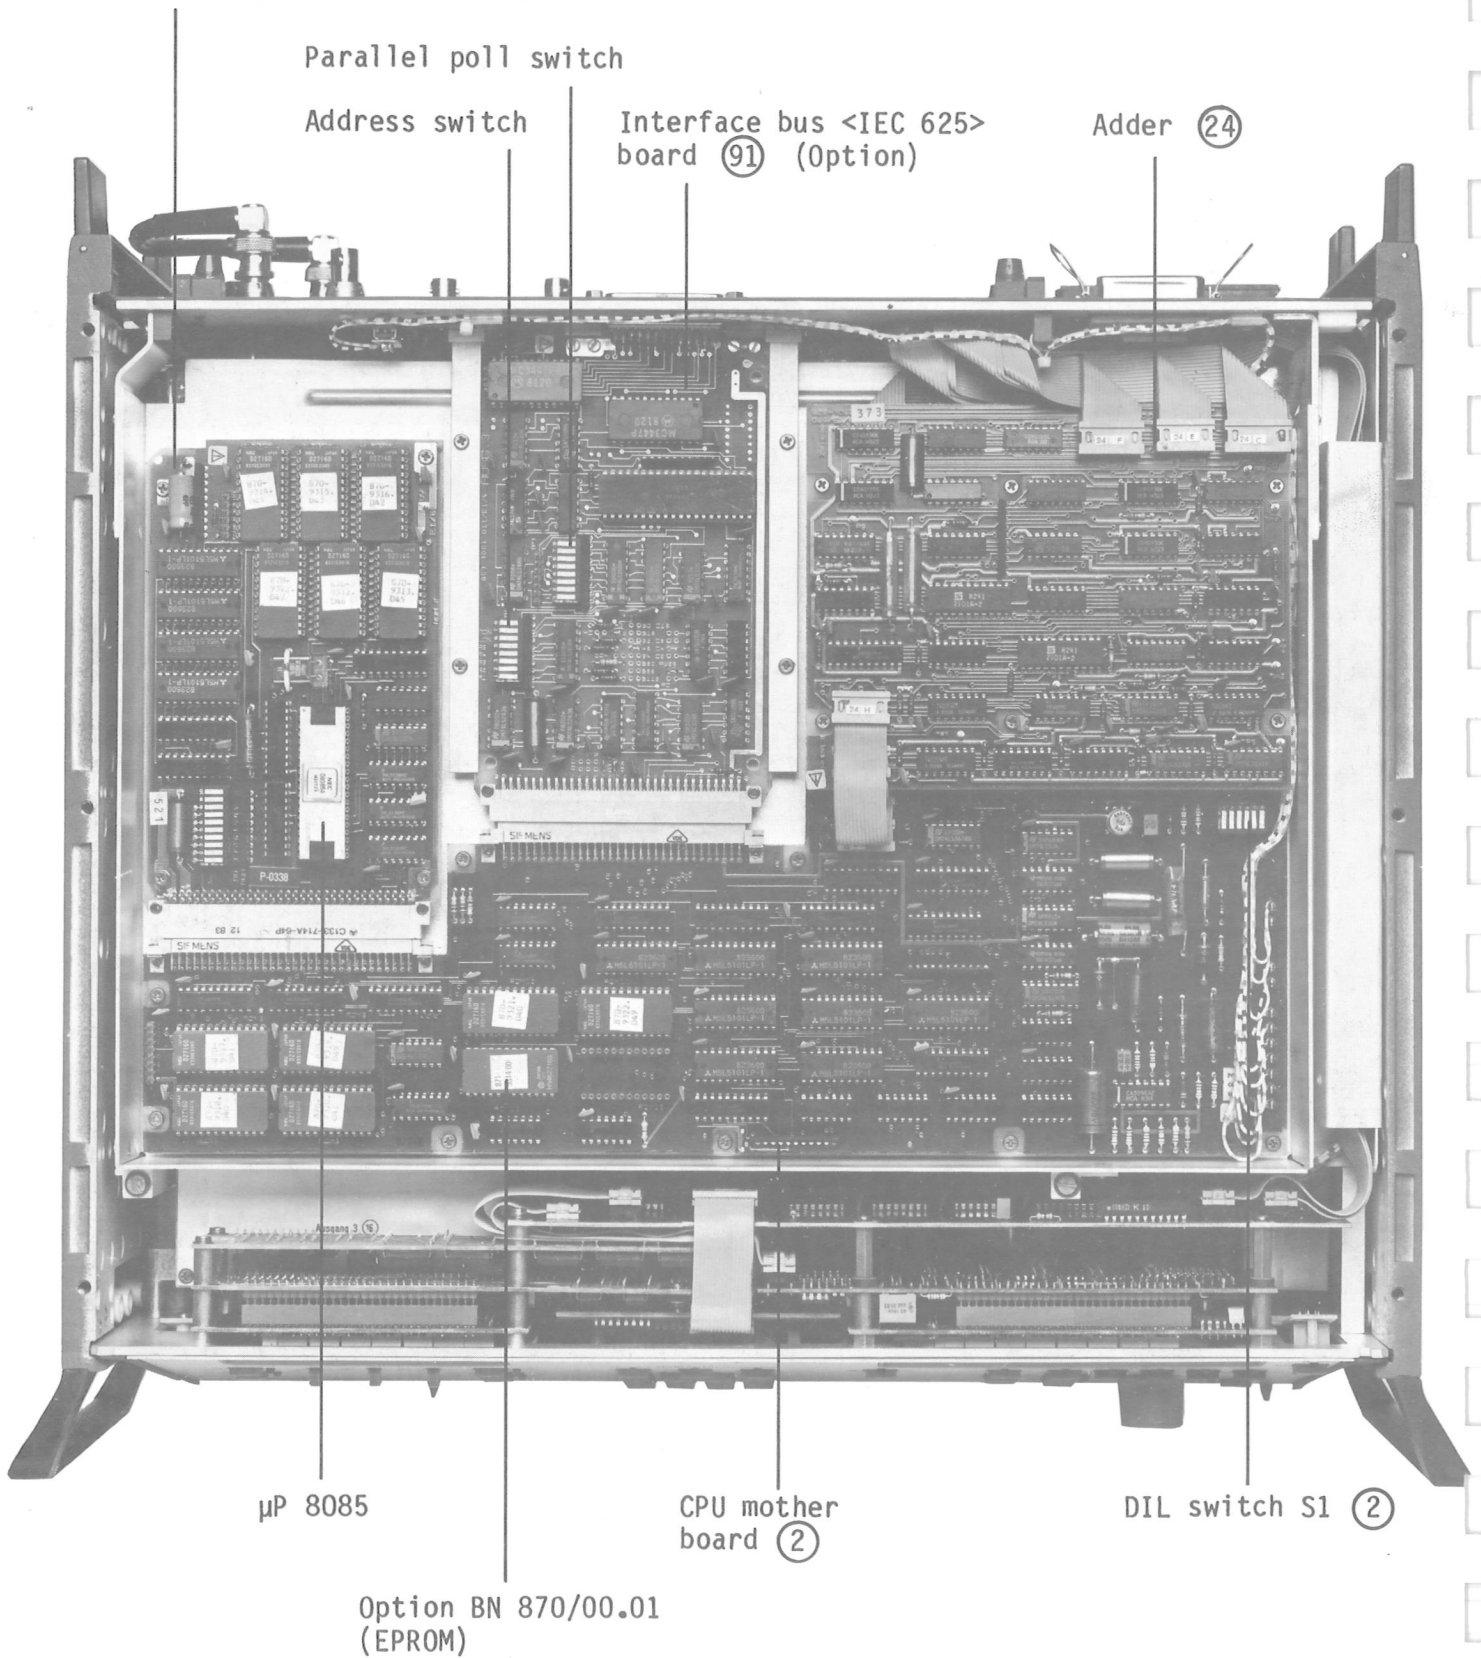
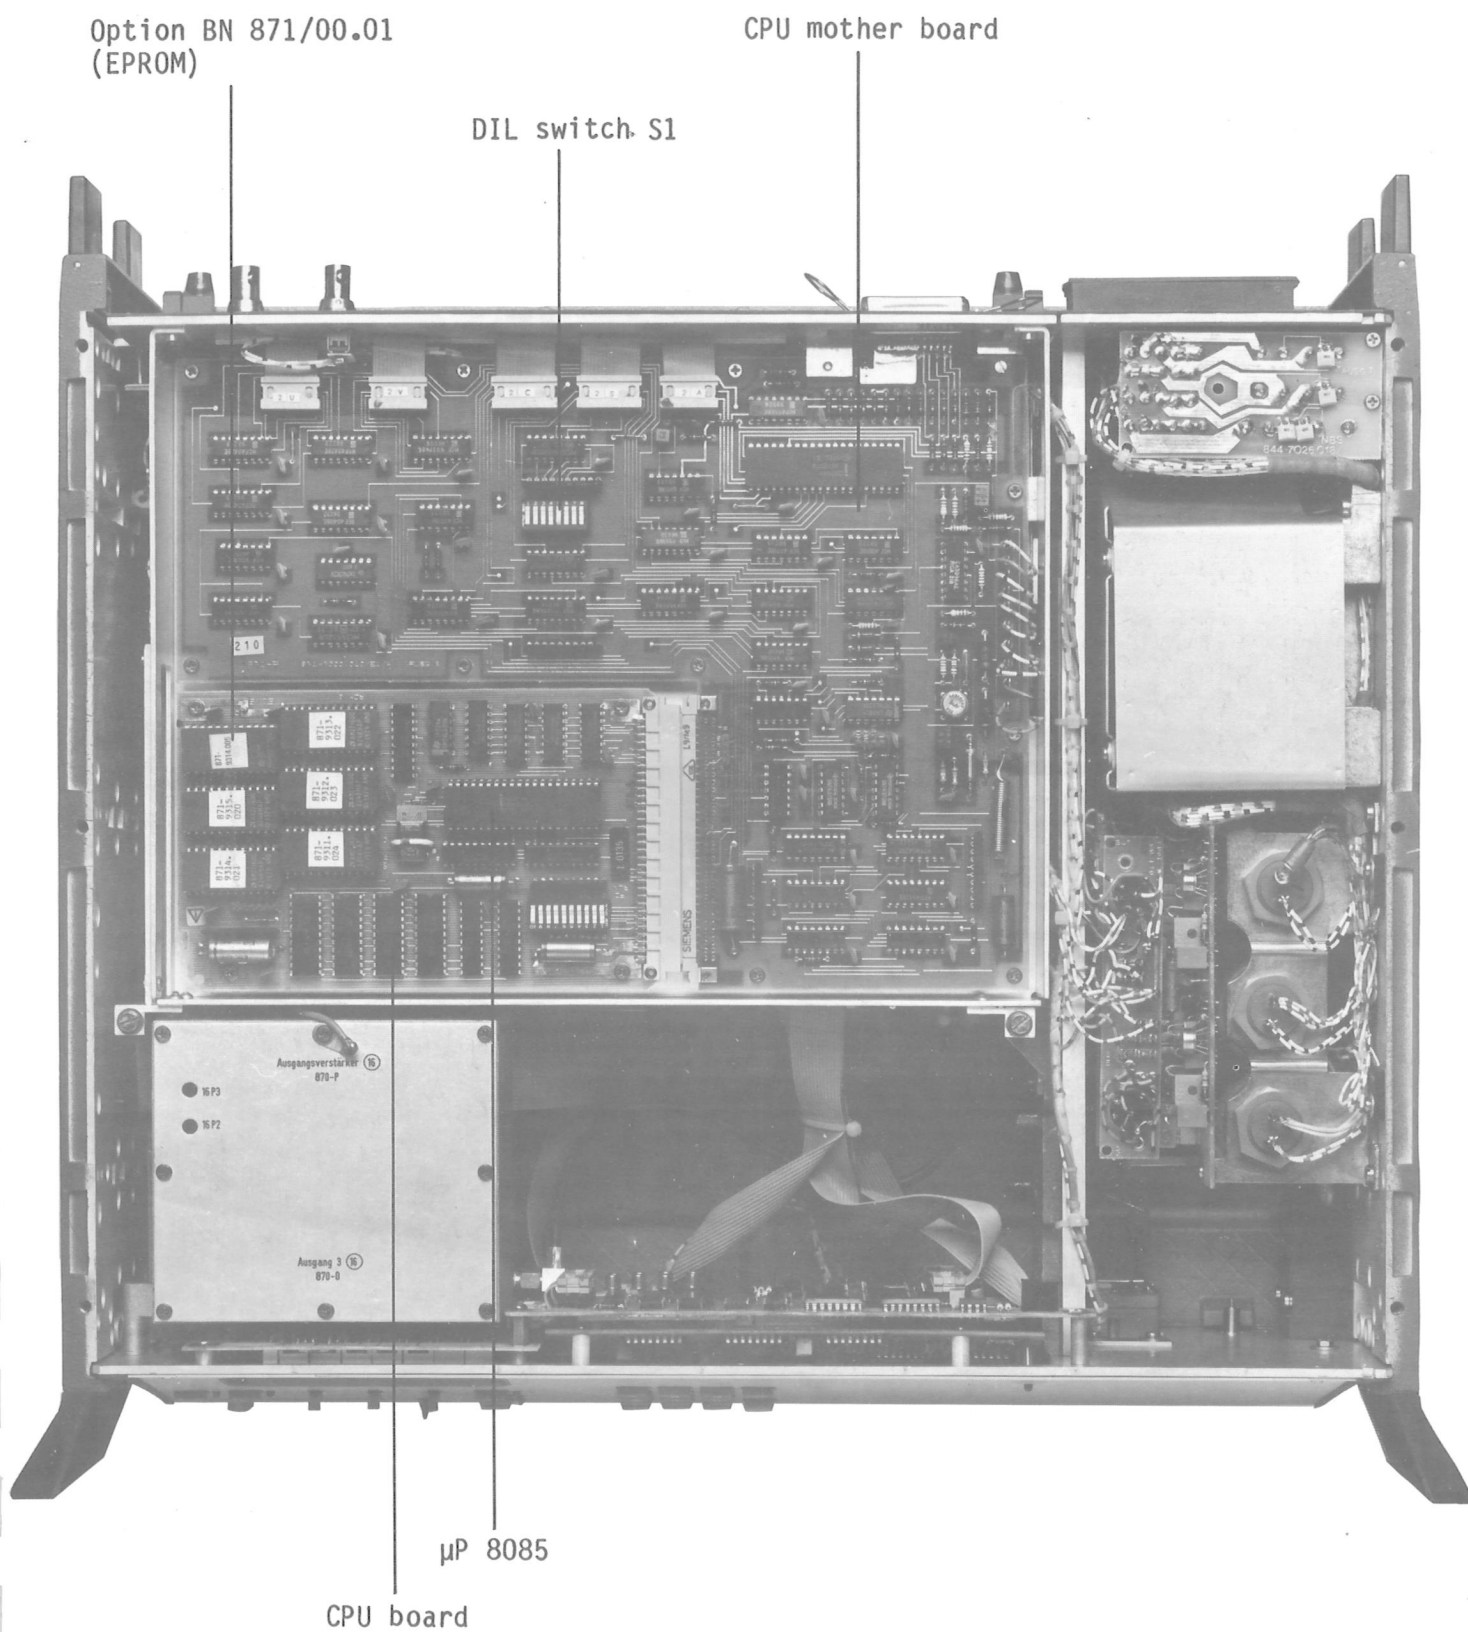
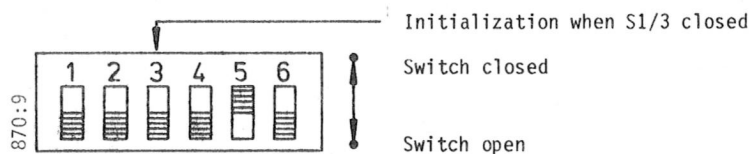

Figure 6-1 Top of upper chassis in PS-19
Figure 6-2 Control section of the PSS-19
Figure 6-3 Switch positions of DIL-switch S1
Figure 6-1 shows details of the upper folding chassis of the PS-19, with the top cover of the unit removed. The figure shows, among other things, the microprocessor (INTEL 8085) and the free positions for the optional accessories: the IEC bus board and the PROM (fixed frequencies, setups) with the customer-specific program. Figure 6-2 shows the control section of the PSS-19 with the upper cover removed, the position of the PROM on the CPU board being visible.
3. Touch or hold the unit with one hand (reference potential), remove the MOS circuit from its packing materials with the other hand (holding it at the ends), and insert it in the position shown in Figure 6-1 or 6-2, respectively. The circuit is inserted correctly if the markings on the circuit coincide with those on the socket.
For normal operation, the DIL switch S1 (see Figure 6-1 and 6-2) must be set as shown in Figure 6-3. Switch 1/5 must always be closed, and all other switches must be open.